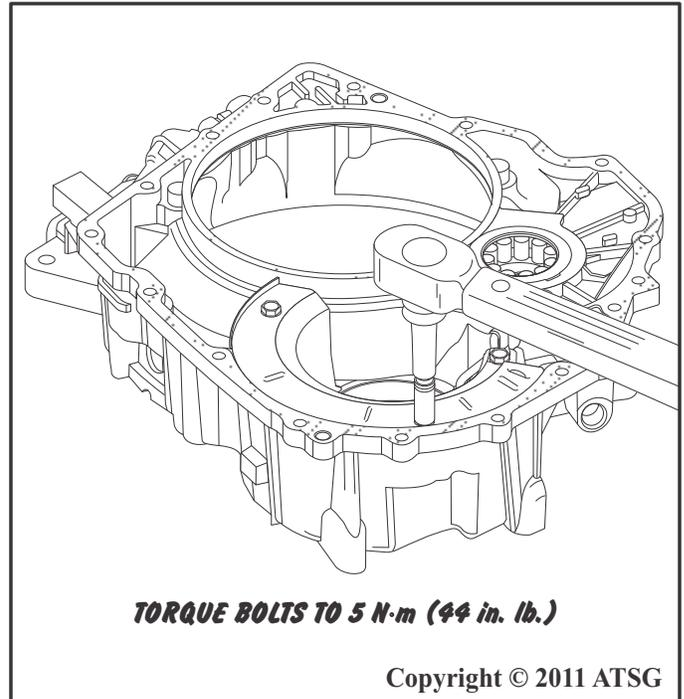

Figure 70
14. Using a torque wrench tighten the lube fluid tube hold down bracket retaining bolt and torque the bolt to **5 N.m (44 in. lb.)** as shown in Figure 70.
15. Using a torque wrench, tighten the three automatic transmission fluid baffle retaining bolts and torque the bolts to **5 N.m (44 in. lb.)** as shown in Figure 70.